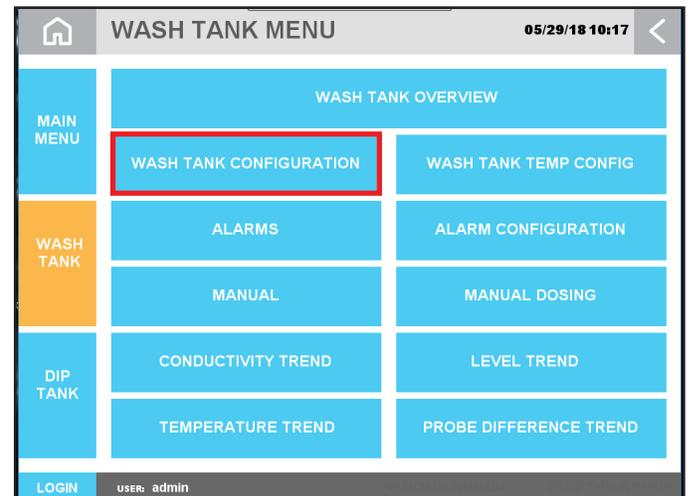

Figure 4.2: Wash Tank Menu
4. Select the sub-menus for the following procedures [Figure 4.2]:
2. Click the Home icon and navigate to **WASH TANK > WASH TANK CONFIGURATION** [Figure 4.2].
- **Dose Time (ON):** The amount of time that the system will Dose Chemical. *(Only occurs if the system is below set point)*